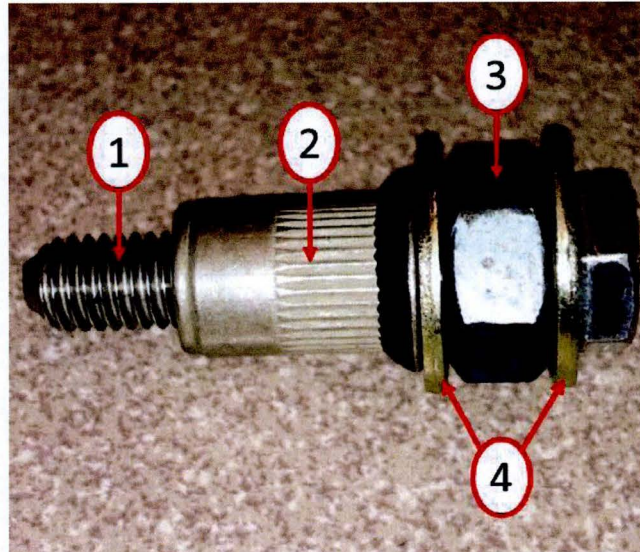
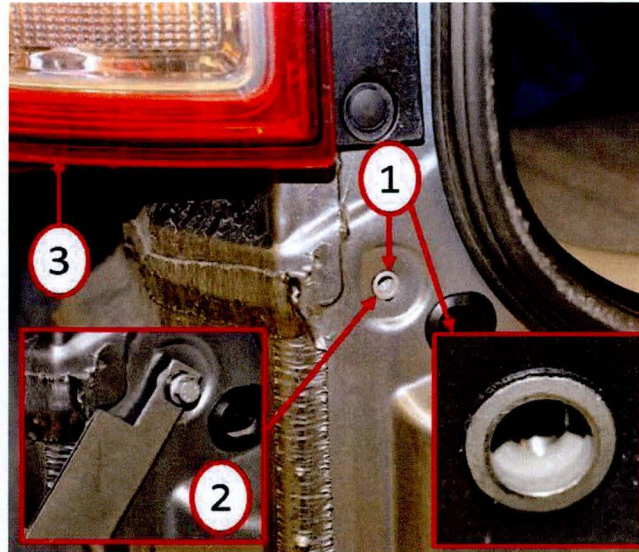

Fig. 2 Rivnut Tool
Fig. 4 Rivet Nut Installation
NOTE: Rivet nuts can be installed properly using readily available shop supplies. Any M6(6mm) x (1"/25mm) length bolt and a (3/32"/2mm thick) piece of flat stock or sheet metal with a (6mm) hole drilled into it (Fig. 4) can be used to install the above rivet nuts. The flat stock or sheet metal used must be a long enough section to hold and prevent rotation or possible personal injury and/or paint damage may result. If these supplies are not available, refer to the hardware listed in Special Tools/Equipment to create a rivnut installation tool (Fig. 2).
3. Install a rivet nut (1) into each of the existing push clip grommet holes as shown in (Fig. 4) and compress them to 10 ft/lb.(120in/lb./13.5nm).
NOTE: If a piece of flat stock or sheet metal and a 6mm bolt (2) (Fig. 4) are not available, use the specified rivnut installation tool listed in Special Tools/Equipment to install the rivet nut. While holding the oversized hex nut (3) (Fig. 2), tighten the M6 bolt (1) (Fig. 2) and compress it into the body.